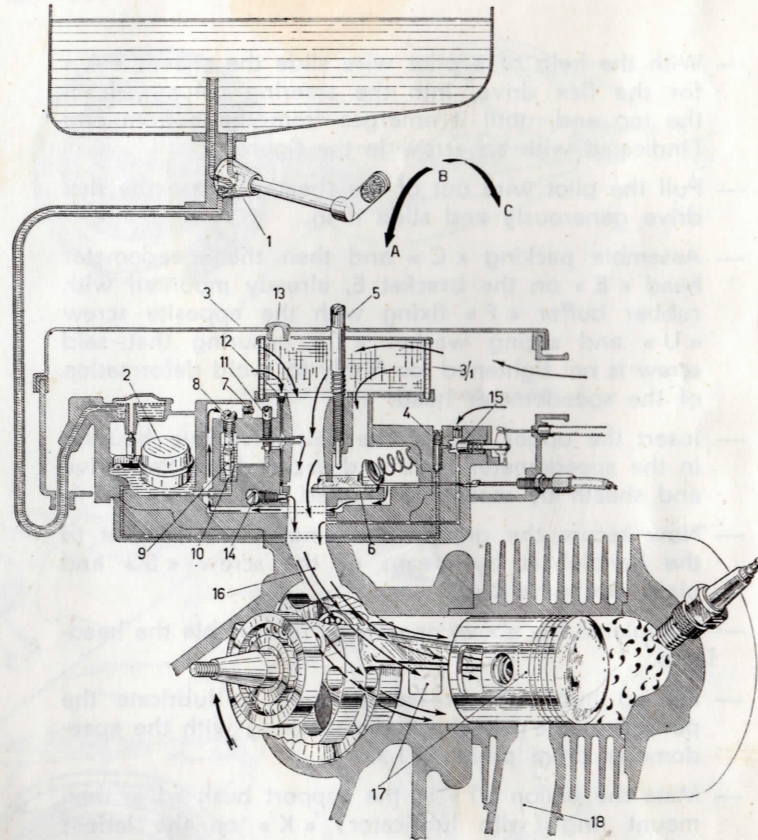

Fig. 11 - Feeding circuit
Carburettor. - With float-chamber (see fig. 11); air cleaner mounted on the engine. Air goes to the carburettor through a large inlet tube and a silencing chamber with filter.
Feeding. - Fuel feed to the carburettor is provided for by gravity (see fig. 11) with gasoline-oil mixture.
See Fig. 11; note the three positions of the fuel valve: open, closed, reserve.
Slow running adjustment. - No hand tool is required for this job. Idling revs can be raised or reduced respectively by simply tightening or slackening the knurled slotted screw on air cleaner steel sheet cover (No. 5, Fig. 11). This screw controls the throttle slide valve.
The adjuster screw for the throttle control cable is installed on the air cleaner case. This screw is to be reset only when necessary and while dismantling and re-assembling. Opposite to said adjuster screw there is on the air cleaner case a plugged hole for access to another screw (spring loaded); see Fig. 11 No. 14. This screw controls the flow of carburated air through the duct from the idling jet, and consequently the idling revs. We recommend that customers refrain from resetting this screw unless absolutely necessary or during
- (1) - Remove air cleaner cover and unscrew the two filter retainer screws. Extract the filter (n. 3/1 fig. 11) from carburettor, wash in gasoline and if possible air blast dry.
- (2) - Check oil level in the gear box (see above).
- (3) - Grease all joints on the brake controls.
- (4) - Clean the sparkplug electrodes with very fine emery cloth or suitable files, and adjust the gap to 0.6 mm. (0.023").